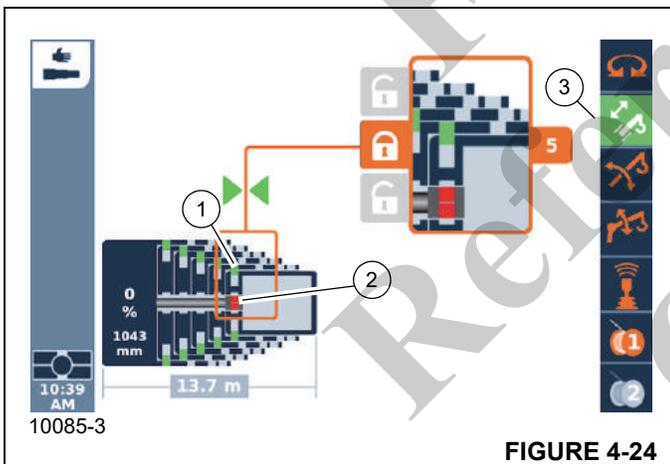

FIGURE 4-24
- Telescoping function enabled – symbol (3, Figure 4-24) green
- Telescopic section locked – symbol (1) green
- Telescoping cylinder unlocked – symbol (2) red